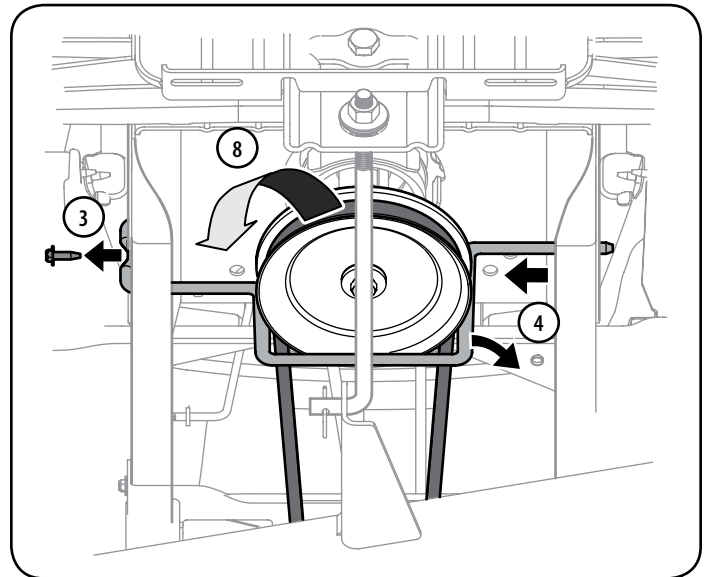

Figure 25
- c. Remove the hex screw securing the engine pulley keeper rod to the frame. See Figure 25.
- d. Slide the rod to the right to remove it. See Figure 25.